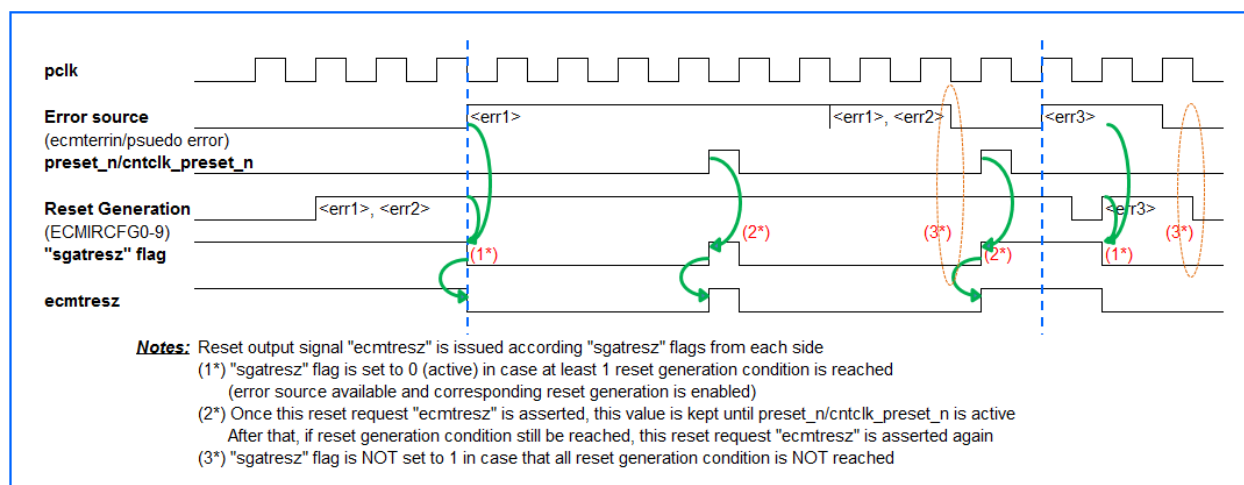

Figure 5.2: Internal reset issuing (1/2)
- The internal reset request output signal (“ecmtresz”) is issued accordingly with active level is result of **AND** operator between internal reset flags (“sgatresz”) from Master and Checker sides: “ecmtresz” active level = “sgatresz (M)” & “sgatresz (C)”
- When error input source actives or Pseudo error actives, “sgatresz” flag is set to 0 (active level) immediately if corresponding bit in ECMIRCFG0-9 is 1. (Figure 5.2)